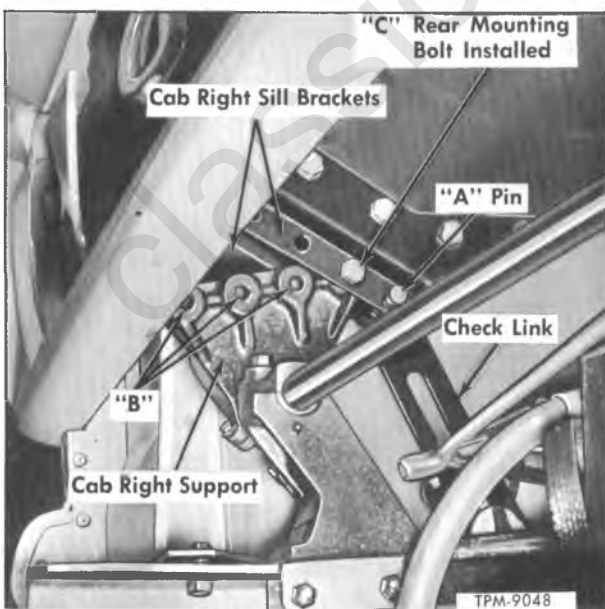
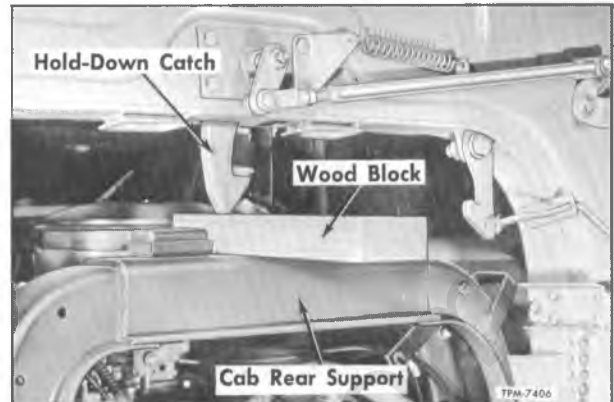

Figure 30—Mounting at Cab Rear Support
Figure 31—Rear Hold-Down Catch on Wood Block
7. Using aid of assistant and hoist, tilt cab approximately 45° to the unloaded position of cab mounting torsion bar (refer to preceding caution) and suspend safely there. While cab is in this position, insert a pry bar in between cab right support and cab sill. Remove three forward bolts, lock washers and nuts from cab right support to sill brackets (B, fig. 30). Use pry bar to assist in removing bolts. Disconnect check link at right side of cab.
8. Place a short piece of wood 2" x 4" over catch hole in cab rear support (fig. 31), then with aid of assistant, lower cab until catch at bottom of cab rests on block. This will prevent engagement of cab hold-down catch. Remove two retaining bolts from torsion bar at cab left support and remove support cap. Raise cab slightly, and remove rear mounting bolt (C, fig. 30) attaching right support to sill brackets.
5. Install check link retaining clevis pin with cotter pin (A, fig. 30). Install bolt (C, fig. 30) into rear hole of cab right sill brackets and support.
7. With two assistants, one holding pry bar and the other helping to tilt cab forward (approximately 45 degrees), install the three remaining bolts, lock washers, and nuts (B, fig. 30) in the right cab support and sill brackets. Use pry bar to align bolt holes. Torque bolt nuts to 40-50 foot-pounds.